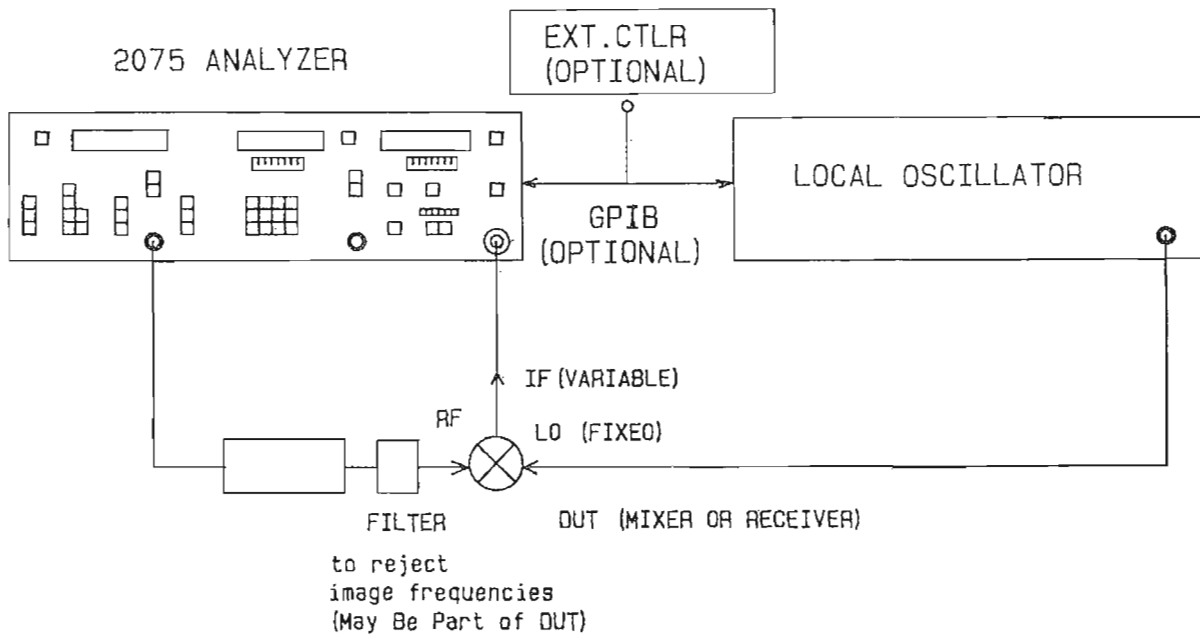

Figure 3-12b. TEST CONFIGURATION 5 MEASUREMENT
- Insert the Device Under Test into the setup, as shown in Figure 3-12b. If external relays are being used, ignore this step. Upon completing the calibration, the 2075 removes the actuating voltage from the relays to place the DUT in the measurement path (unless Special Function 10.1 has been activated).